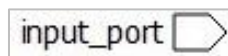
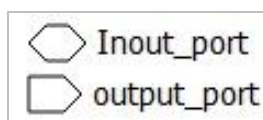

Figure 2.99. Input Port
Figure 2.100. Output Port and Inout Port
- f. Click **OK**. The port appears. Figure 2.99 shows an input port, port name of which is on the left. Figure 2.100 shows an output port and an inout port, port names of which are on the right.